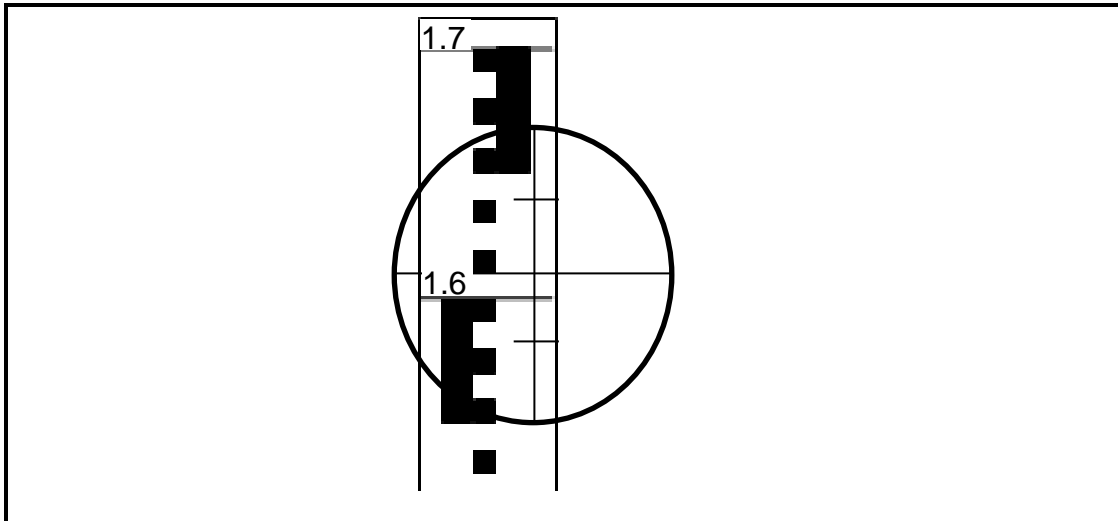

FIGURE 2.6
2.6 FIGURE 2.6 shows the dumpy level reading which is taken on the telescopic staff. Answer the following questions with regard to the reading.